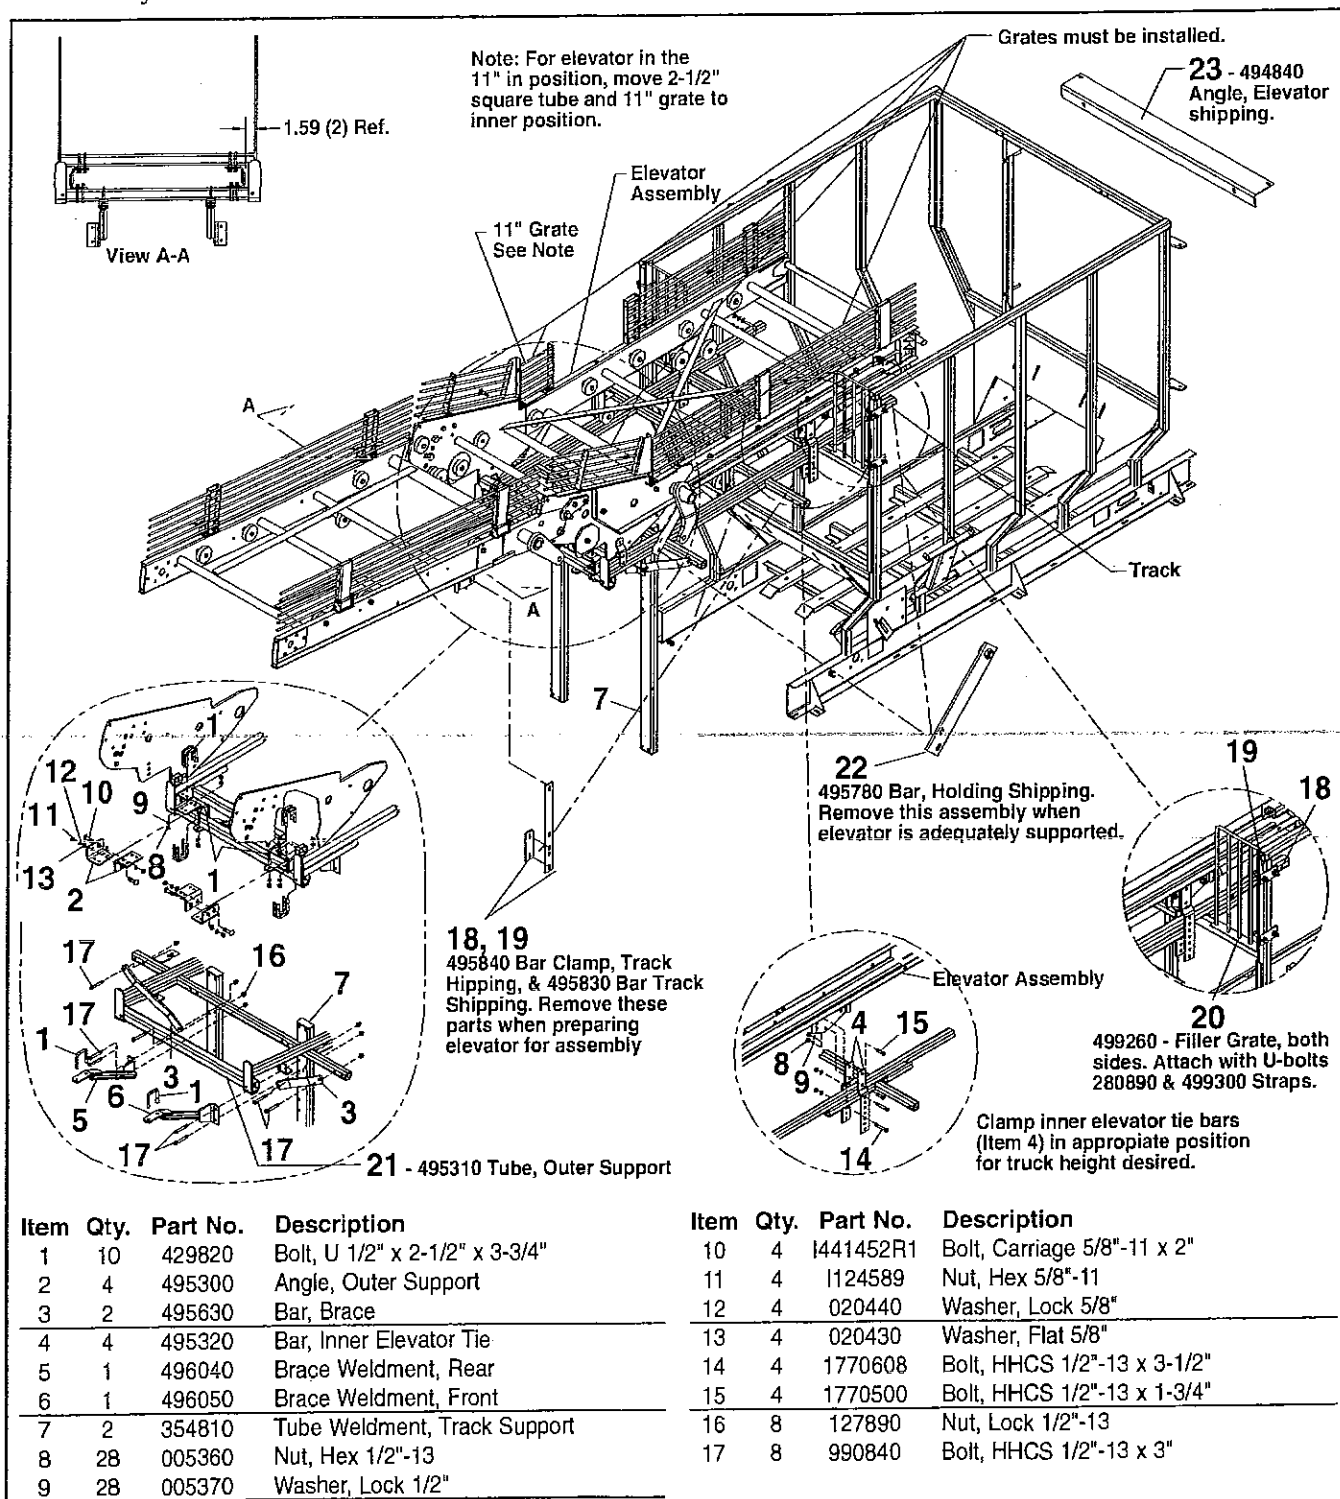

Figure 3.08: Elevator Assembly.
Determine if the elevator will be positioned in the extreme outer position as assembled or the 11" in position (see Figure 3.08). If 11" in position is desired move 2-1/2" square tube (item 20) to inner position and move the 11" filler grate to the inner position so the ferris wheel opening is in the proper position.
Once the tank and elevator are in place on the frame, proceed as follows, (see Figure 3.08).
- H. Be sure to fold the truck boom grates (item 18) up before running the elevator.
- K. Install Filler Grates (20) with u-bolts, (see Figure 3.08).